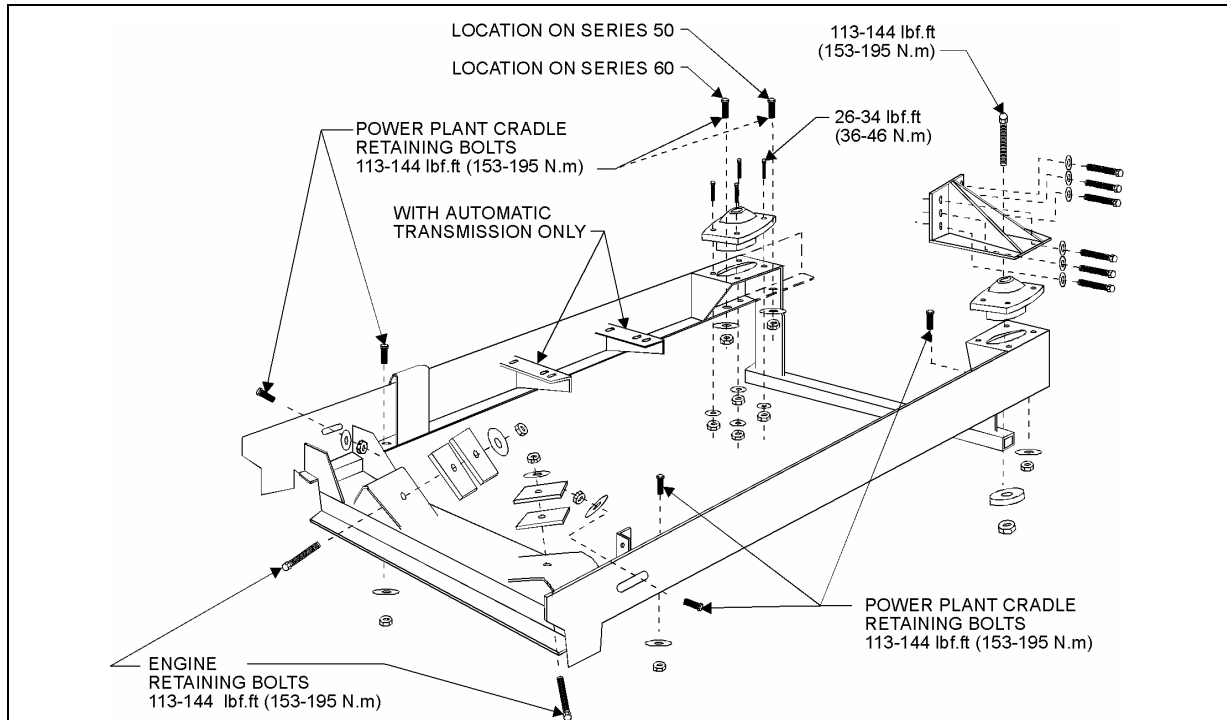

FIGURE 18: POWER PLANT CRADLE INSTALLATION
37. Remove the six retaining bolts, washers and nuts securing the power plant cradle to the vehicle rear subframe (Fig. 18).
Two rubber mounts are used at the front of the engine while two others are mounted on each side of the flywheel housing on vehicles equipped with automatic and manual transmissions (Fig. 18).